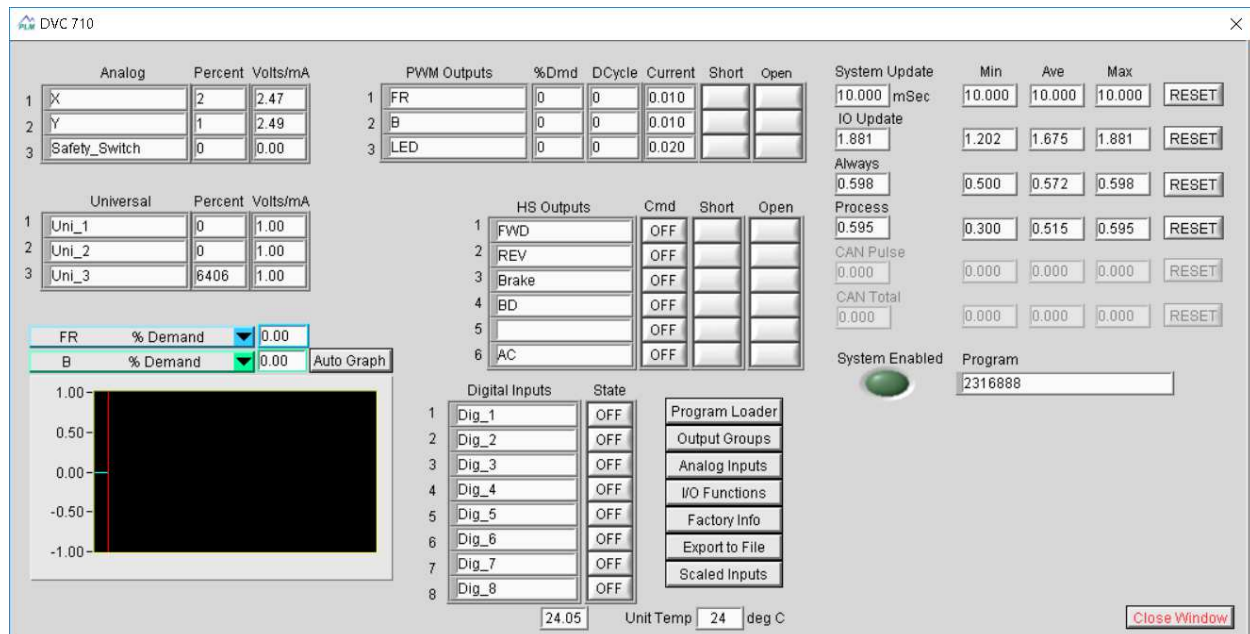

Figure 15 – DVC 710 Monitor Window
5) Select the 'DVC 710 Master Button'. This will launch the monitor window (see Figure 15).